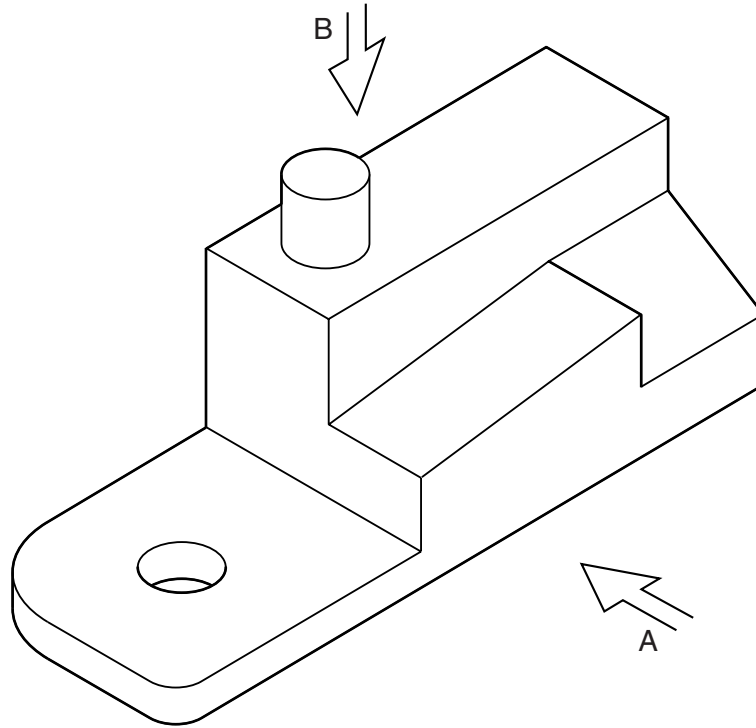

Fig. 3
(b) Fig. 3 shows a full size isometric view of a bracket.
- (ii) Take approximate measurements from Fig. 3 to fully dimension the drawings. [6]